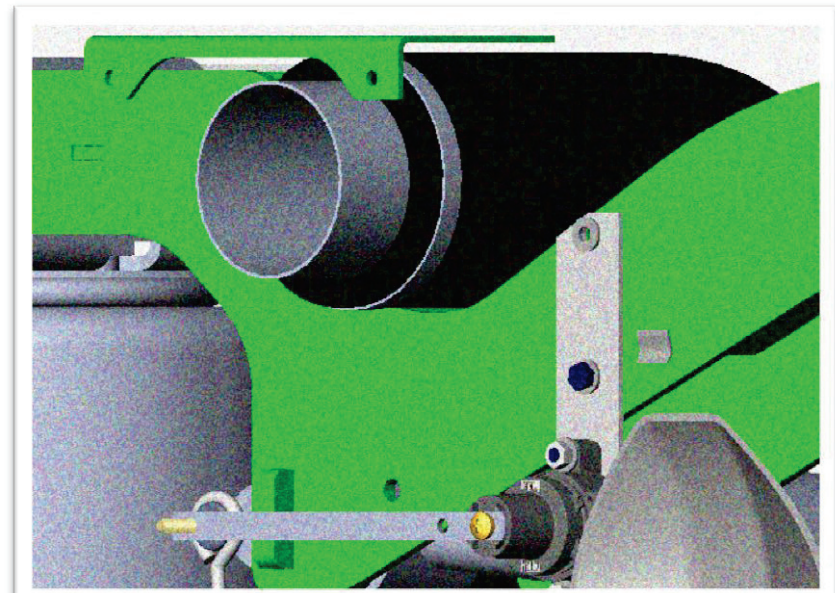

FIG. 2-2
3. Adjust the bottom position of pipe and move away from lower cross member to provide a gap. Before tightening up make sure that upper and lower cross member both have a gap. Tighten band clamp and exhaust hanger. Refer to FIG. 2-2.